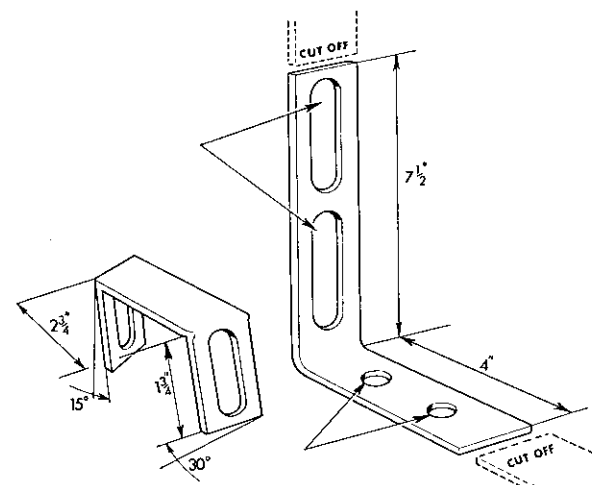

Fig. 26 Details of power stop mounting brackets
1. Shape the brackets as shown on Fig. 26, taking care to keep the mounting faces flat.